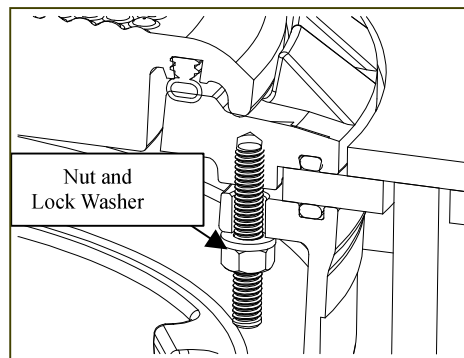

Figure 6
18. In a crossing pattern, torque the bolts down between 15 to 20 ft.-lbs. 6 Point Ratcheting box wrench is recommended. (See Figure 6.)